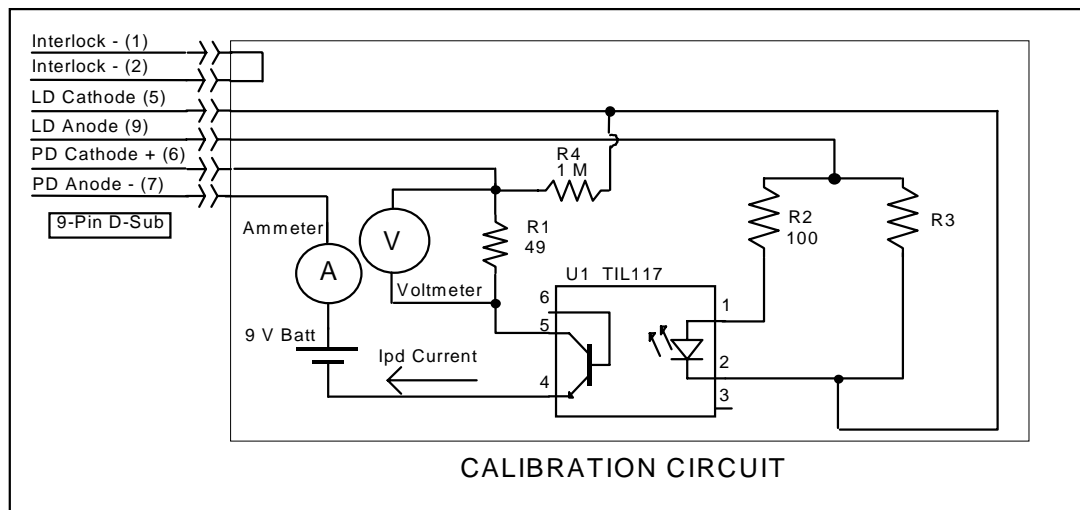

Figure 3.1 I_{PD} Calibration Circuit
- 1 Select the LCM-39440 to be calibrated by pressing the appropriate (ADJUST) switch until the LAS indicator is orange. With the LASER output off, connect a calibrated ammeter to the PD Anode output of the LCM-39440, and connect the circuit of Figure 3.1 to the LASER and PD outputs.
If a calibrated ammeter (with 0.1 μA resolution) is not available, place a calibrated DMM (with 0.1 mV resolution) to measure the voltage across the resistor, R1, as shown in Figure 3.1. Calculate the current in the following steps by using Ohm's Law:
- 1 With the LASER output off, connect a calibrated ammeter to the PD Anode output of the LCM-39440, and connect the circuit of Figure 3.1 to the LASER and PD outputs.